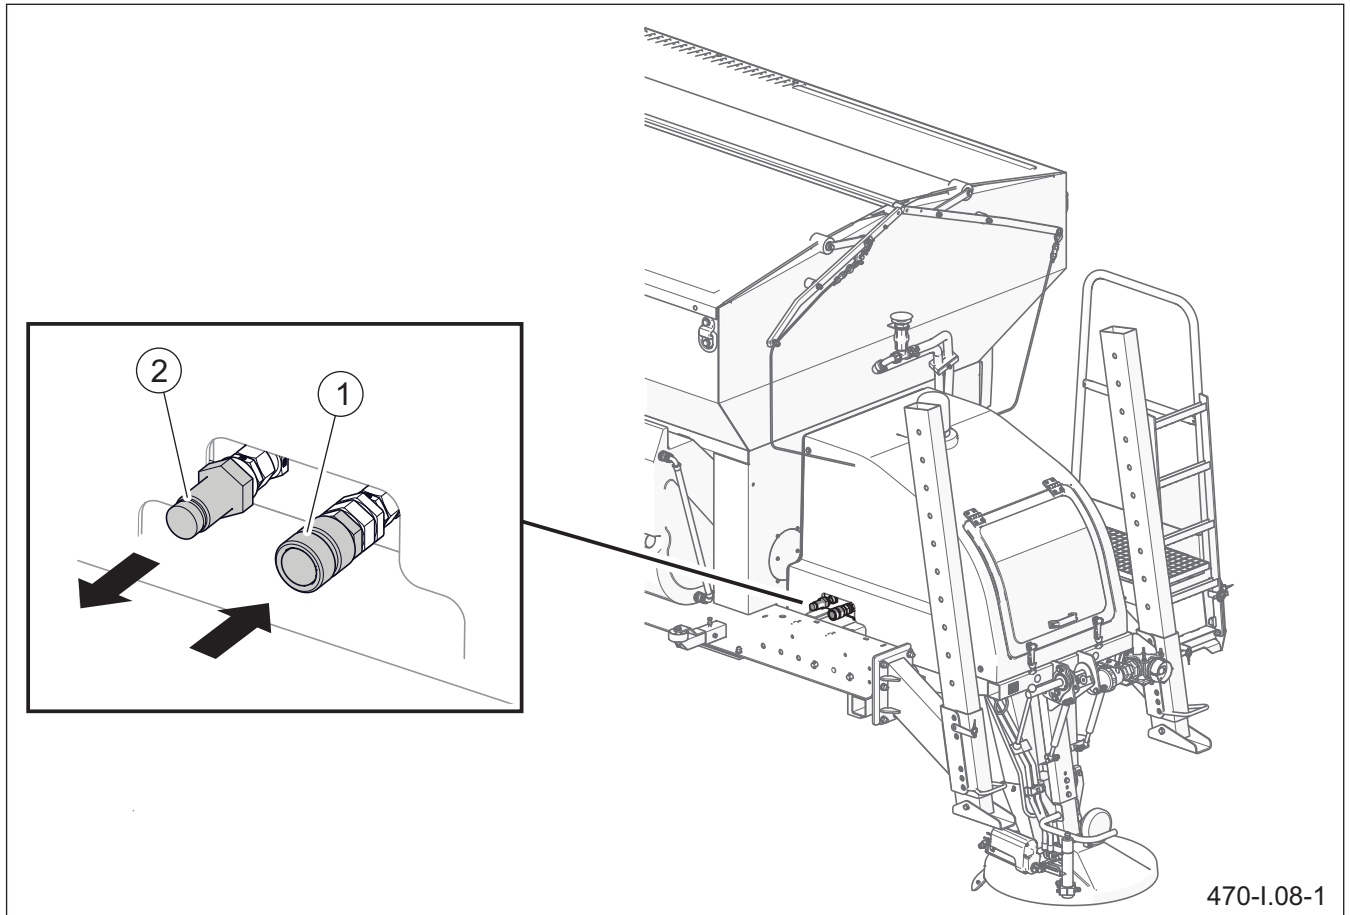

Figure 5.9 Connect the hydraulic system
Connect supply line to hydraulic socket (1) while connect plug (2) to carrying vehicle hydraulic system oil return line (figure 5.9).